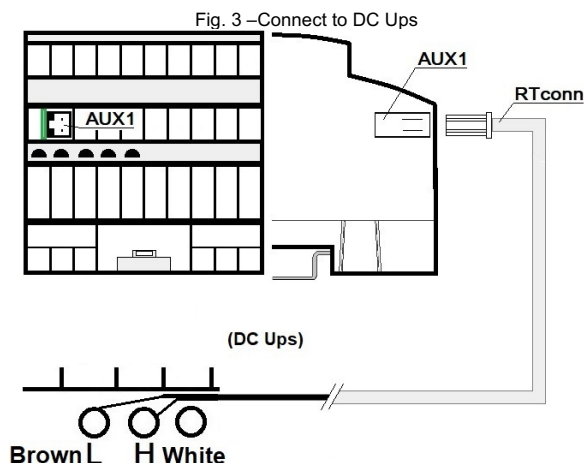

Fig. 4 – Connection RTConn cable
To ADELBUS connection, please connect the cable RTConn on AUX1 as explained in Fig.4 and connect the other side of the cable to the CAN terminals L (Brown) and H (White) of the DC Ups, with a line termination (LT) resistor 120 Ohm, insert the jumper on the device.